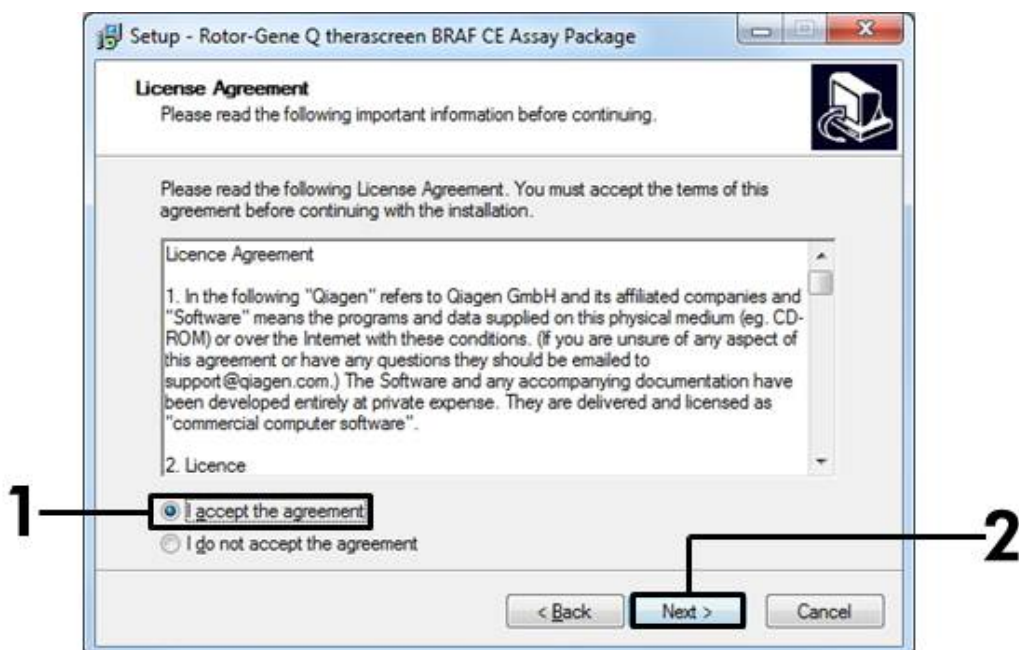

Figure 42. The “License Agreement” dialog box. (1 = “Accept” button, 2 = “Next” button).
5. Read the License Agreement in the “License Agreement” dialog box and accept the agreement by checking the statement “I accept the agreement”. Click “Next” to continue (Figure 42).